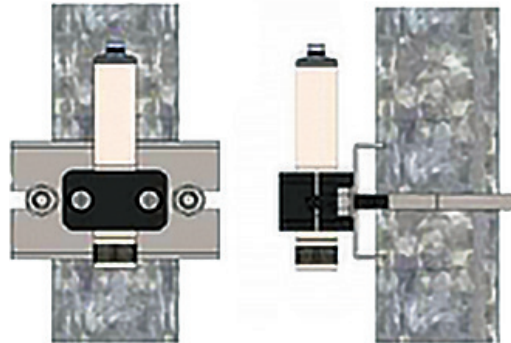

Figure 13: Wall mounting hardware SA11 (/UM)
- Installing the SA11 device using the optional pipe and wall mounting hardware (/UM). Place a ground wire between the ground terminal of the mounting bracket and the ground reference of the process (see Figure 13).